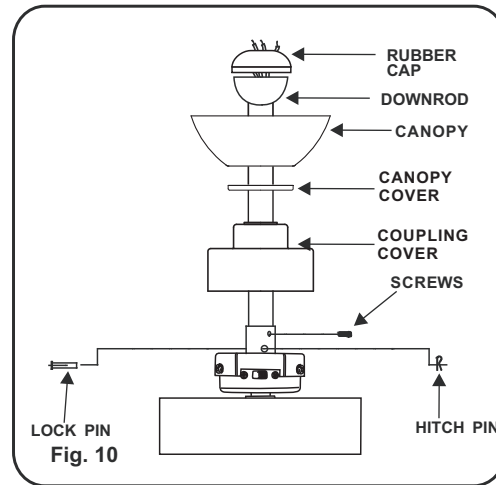

Fig. 10
Step 5. Slip coupling cover, canopy cover, and canopy onto downrod (Fig.10). Carefully reinstall hanger ball onto rod being sure that cross pin is in the correct position, set screws are tighten and wires are not twisted. Carefully feed fan wires the holes in the rubber cap.